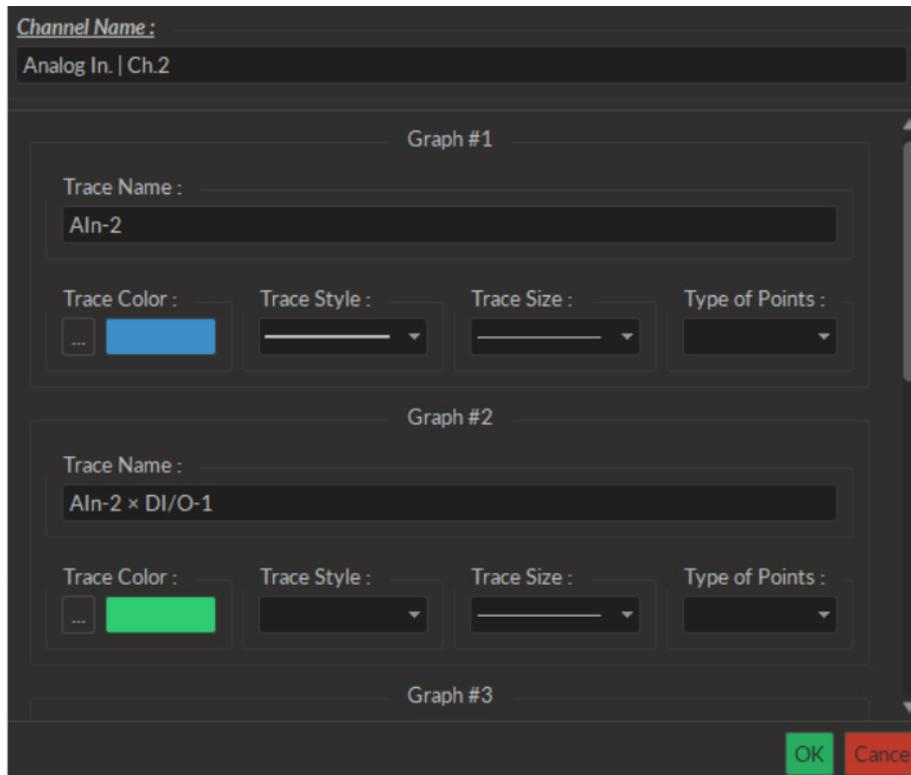

Figure 3.25: Graphs Window
- The **Channel Name** (Fig. 3.25) is indicated in the upper left.
- The **Trace # X** box (Fig. 3.25) (where **X** is the number of the trace) show the visual options available for a single trace on the graph. A trace box appears for each trace on the graph.